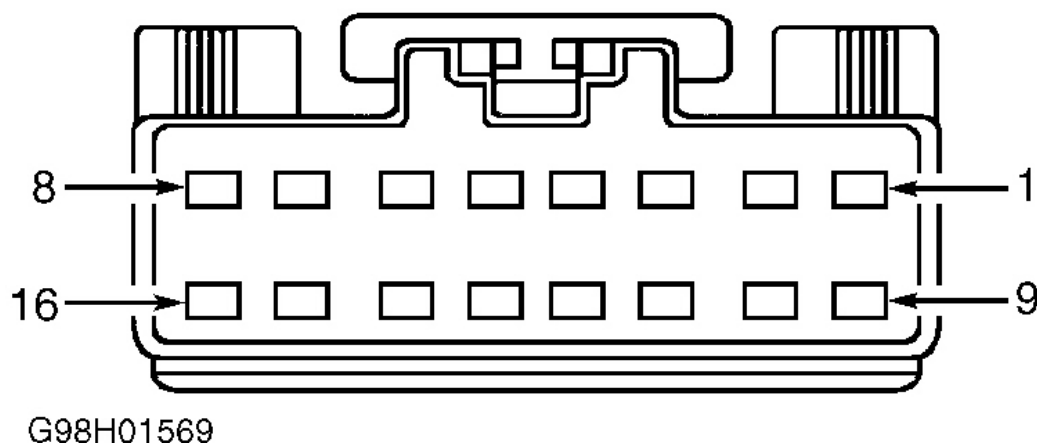

Fig. 3: Identifying DDM Connector C521 Terminals
2. Turn ignition off. Disconnect DDM 16-pin connector C521 located in upper front corner of driver door. Turn ignition switch to RUN position. Using a voltmeter, check voltage between ground and DDM 16-pin connector C521 terminal No. 7 (White/Purple wire). See **Fig. 3** . If voltage is more than 10 volts, reconnect DDM 16-pin connector C521 and go to next step. If voltage is 10 volts or less, go to step 4 .
7. Turn ignition off. Disconnect DDM 16-pin connector C521 located in upper front corner of driver door. Using a voltmeter, check voltage between ground and DDM 16-pin connector C521 terminal No. 7 (White/Purple wire). See **Fig. 3** . If voltage is 10 volts or less, go to next step. If voltage is more than 10 volts, replace DDM and retest system operation.
8. Turn ignition off. Disconnect decklid release switch connector. Using an ohmmeter, check resistance in White/Purple wire between DDM 16-pin connector C521 terminal No. 7 and decklid release switch connector. See **Fig. 3** . If resistance is less than 5 ohms, go to next step. If resistance is 5 ohms or more, repair open in White/Purple wire and retest system operation.
9. Using an ohmmeter, check resistance between ground and DDM 16-pin connector C521 terminal No. 7 (White/Purple wire). See **Fig. 3** . If resistance is less than 5 ohms, repair short to ground and retest system operation. If resistance is 5 ohms or more, go to next step.
3. Turn ignition off. Disconnect DDM 16-pin connector C521 located in upper front corner of driver door. Disconnect driver door ajar switch connector located in upper rear of driver door. Using an ohmmeter, check resistance between ground and DDM 16-pin connector C521 terminal No. 5 (Dark Blue wire). See **Fig. 3** . If resistance is less than 5 ohms, go to next step. If resistance is 5 ohms or more, repair open in Dark Blue wire and retest system operation.
5. Turn ignition off. Disconnect DDM 16-pin connector C521 located in upper front corner of driver door. Disconnect all passenger door ajar switch connectors located in upper rear of passenger doors. Using an ohmmeter, check resistance in Black/Orange wire between DDM 16-pin connector C521 terminal No. 6 and passenger door ajar switch connector. See **Fig. 3** . If resistance is less than 5 ohms, go to next step. If resistance is 5 ohms or more, repair open in Black/Orange wire and retest system operation.
6. Using an ohmmeter, check resistance between ground and DDM 16-pin connector C521 terminal No. 6 (Black/Orange wire). See **Fig. 3** . If resistance is more than 10 k/ohms, go to next step. If resistance is 10 k/ohms or less, repair short to ground in Black/Orange wire and retest system operation.
2. Turn ignition off. Disconnect DDM 16-pin connector C521 located in upper front corner of driver door. Disconnect driver door ajar switch connector located in upper rear of driver door. Using an ohmmeter, check resistance between ground and DDM 16-pin connector C521 terminal No. 5 (Dark Blue wire). See **Fig. 3** . If resistance is more than 10 k/ohms, go to next step. If resistance is 10 k/ohms or less, repair short to ground in Dark Blue wire and retest system operation.
4. Turn ignition off. Disconnect DDM 16-pin connector C521 located in upper front corner of driver door. Disconnect passenger door ajar switch connector located in upper rear of passenger door. Using an ohmmeter, check resistance between ground and DDM 16-pin connector C521 terminal No. 6 (Black/Orange wire). See **Fig. 3** . If resistance is more than 10 k/ohms, go to next step. If resistance is 10 k/ohms or less, repair short to ground in Black/Orange wire and retest system operation.
6. Turn ignition off. Disconnect DDM 16-pin connector C521 located in upper front corner of driver door. Disconnect driver door ajar switch connector located in upper rear of driver door. Using an ohmmeter, check resistance in Dark Blue wire between DDM 16-pin connector C521 terminal No. 5 and driver door ajar switch connector. See **Fig. 3** . If resistance is less than 5 ohms, go to next step. If resistance is 5 ohms or more, repair open in Dark Blue wire and retest system operation.
8. Disconnect all passenger door ajar switch connectors located in upper rear of passenger doors. Using an ohmmeter, check resistance in Black/Orange wire between DDM 16-pin connector C521 terminal No. 6 and passenger door ajar switch connectors. See **Fig. 3** . If resistances are less than 5 ohms, go to next step. If either resistance is 5 ohms or more, repair open in Black/Orange wire and retest system operation.